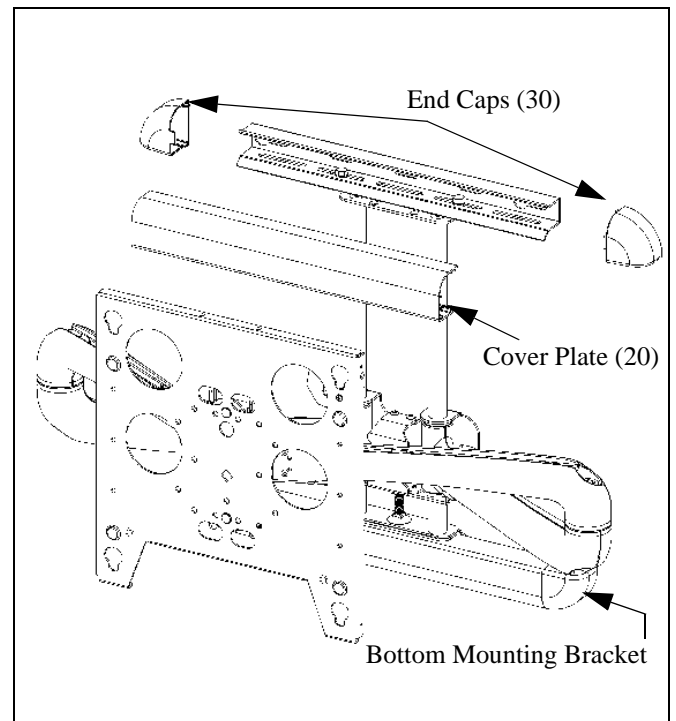

Figure 5: Install Cover Plates and End Caps
1. Install cover plate (20) over the top bracket (see Figure 5).
2. Install end cap (30) on the cover plate (20).